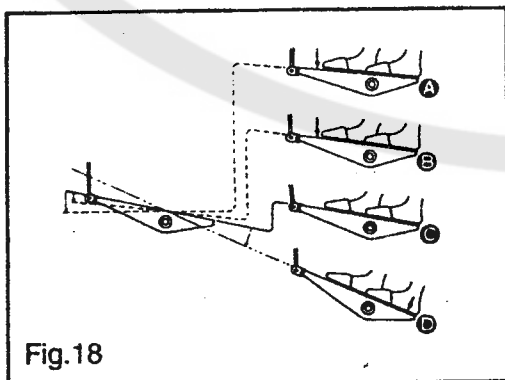

Fig.18
- 2) You can adjust the presser foot lift up to 13 mm using knee lifter adjust screw ①. (The max. lift should be 9 mm for the A type.)
- 3) When you have adjusted the presser foot lift to over 10 mm, be sure that the bottom end of needle bar ① in its lowest position does not hit presser foot ②.
14. PEDAL OPERATION (Fig.18)